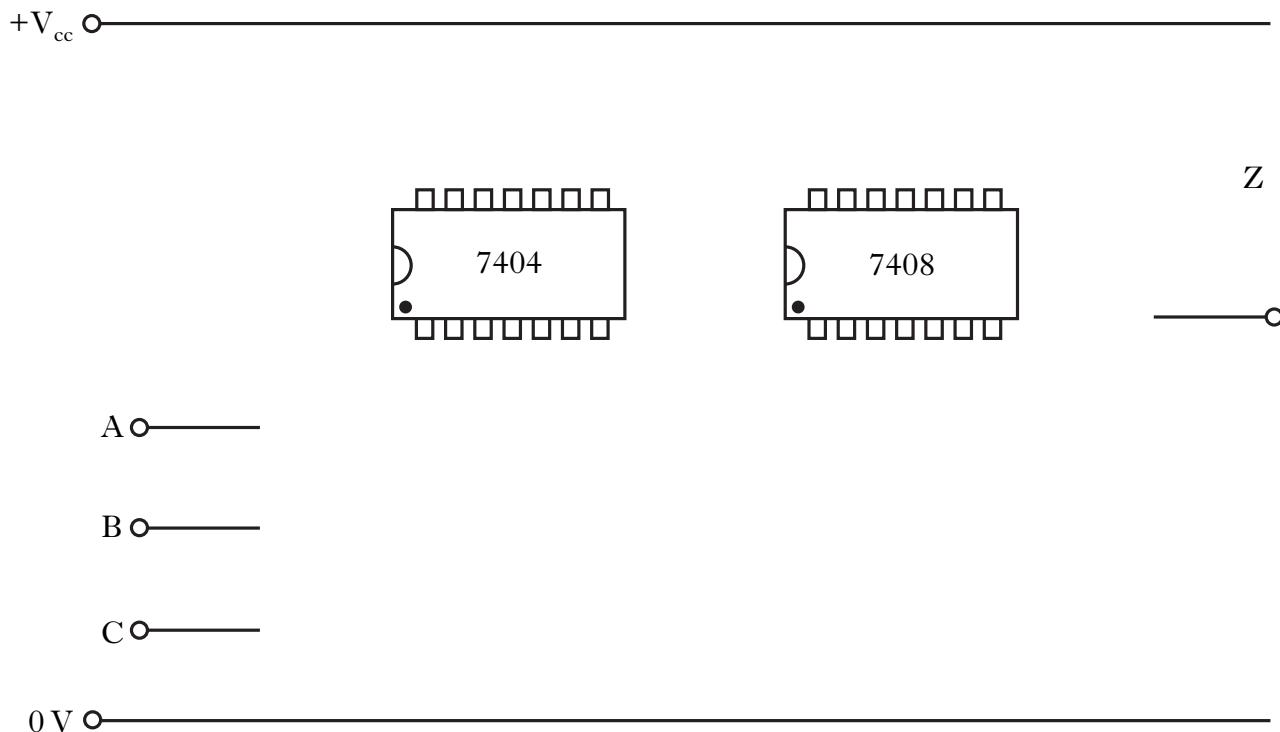

Figure Q11(c)
- (g) Complete the wiring diagram on Figure Q11(c) for the control system in Figure Q11(b).